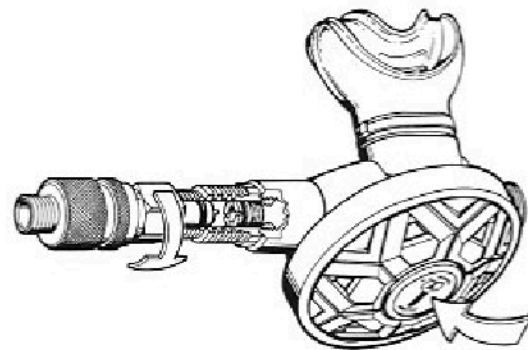

Figure 14
CAUTION: Always depress the purge button when adjusting the crown (item 19) with the In-line Adjustment Tool. Failure to do so can cause damage to the disc (item 15), requiring its replacement. The In-line Adjustment Tool handwheel must be compressed to engage the split screwdriver head to the crown (item 19). See figure 14.